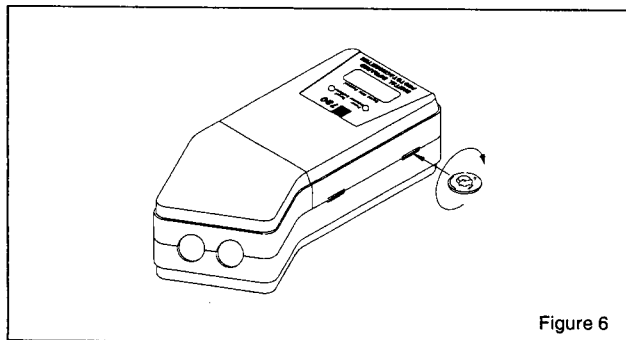

Figure 6
1. Open the instrument case as show in Figure 6.